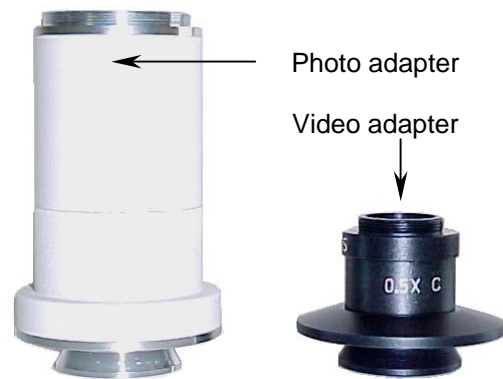

Fig. 3
Model B1-223 comes equipped with a vertical port on the top of the head which permits the attachment of a photographic, or reflex type camera through use of the corresponding adapters. (Fig. 3)
A. To adapt a photographic camera, an adapter tube is required. (Fig. 3). This adapter tube includes a 2.5X photographic lens which measures the parfocality correctly between the images of the binocular and vertical ports. The adapter tube also requires a T mount adapted to fit the T threads of all reflex photographic camera brands on the market.
B. To adapt a video camera, an adapter tube is required (Fig. 3). This adapter contains a 0.5X lens for video that measures the correct parfocality between binocular, and the vertical port images. The vertical port is responsible for the images appearing on the TV monitor. The adapter tube also includes a "C" knurled ring and a "CS" type ring to accommodate different types of video cameras.